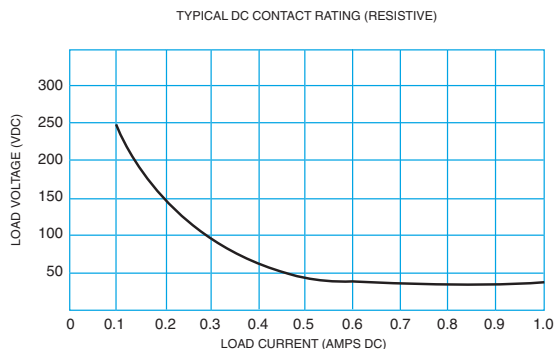

FIGURE 2
Contact Load Ratings (DC) (See Fig. 2 for other DC resistive voltage/current ratings)	Resistive: 1 Amp/28Vdc Inductive: 200 mA/28Vdc (320 mH) Lamp: 100 mA/28Vdc Low Level: 10 to 50 μ A/10 to 50mV